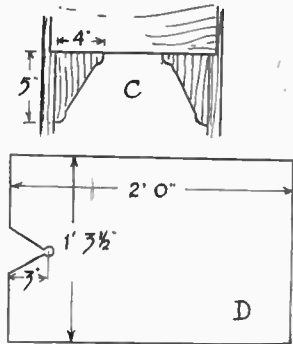

Fig. 4—Details of the front brackets and the table top
another rail of similar stuff across the rear legs. This rail can be clearly seen in the drawing of the finished article. Under the box, at the front, a pair of wood brackets are screwed and glued, as in Fig. 4 (C). These take the place of a cross rail, omitted in the design, as it would get in the way of the worker's feet. Cut them to the shape from any
The table top (D) Fig. 4, is best cut from $\frac{1}{2}$ in. or $\frac{3}{4}$ in. plywood. It will then be in one piece. If solid wood is used, tongued and grooved boards, or boards doweled together to make the width, should be employed. Narrow battens should be screwed underneath, just outside the box body, to keep all together. Battens could be fixed inside, if preferred, but as it is suggested that the fretsaw be fitted to rest under the lid, these battens would probably get in the way.
Where shown in Fig. 4, bore a $\frac{1}{8}$ in. hole through the wood, and cut out the angular space for the saw to enter. The